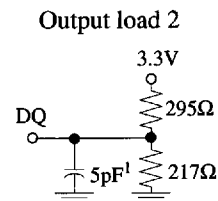

Fig. 2
1. Tested per AC Test Load, Figure 2 (page 8)